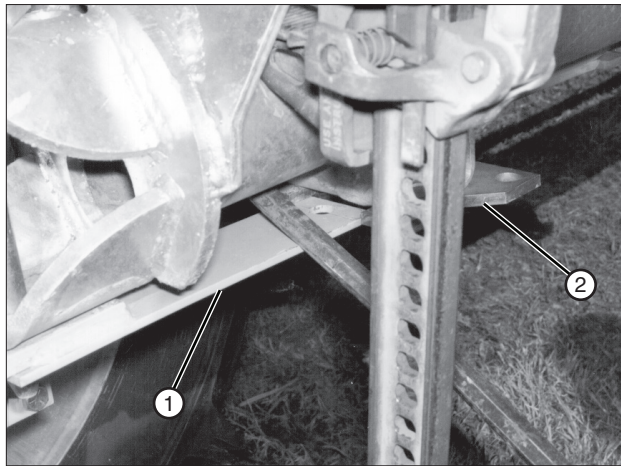

Figure 36-2 1. Steering Arm 2. Latch Plate
6. Using a pry bar, push down on the gearbox mount steering arm to release it from the latch plate while pushing the tire toward the tow position until steering arm is out of latch plate. See figure 36-2.